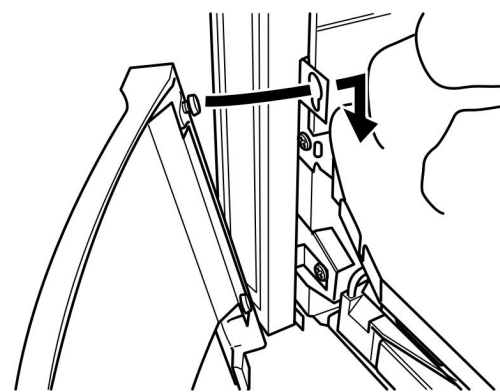

Figure 35. Firefront casting location
1. There are two screws located on the upper rear face of the firefront casting. Locate the two screw heads through the keyhole slots at the inner sides of the fascia. If the screw heads do not project enough or project too far, the screws can be adjusted. Lower the firefront casting so that it rests on the hearth. See figure 35.